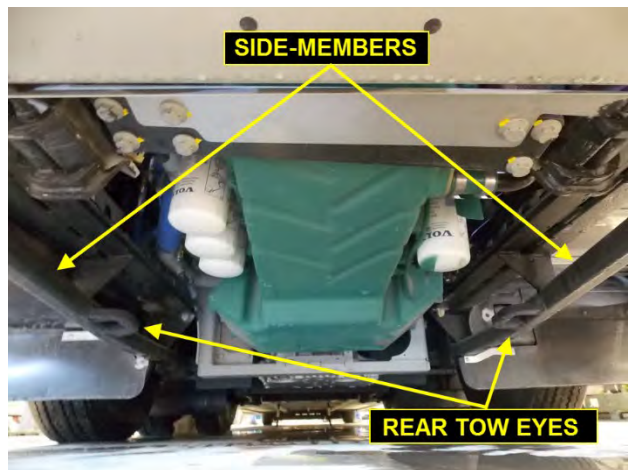

Figure 67: REAR TOW EYES ON SIDE-MEMBERS LOCATED UNDER ENGINE CRADLE SUPPORT RAILS
5. Deploy the tow truck stinger arm. Place the axle forks under the rear tow eyes if equipped or under the side-members (Figure 67 & Figure 68).